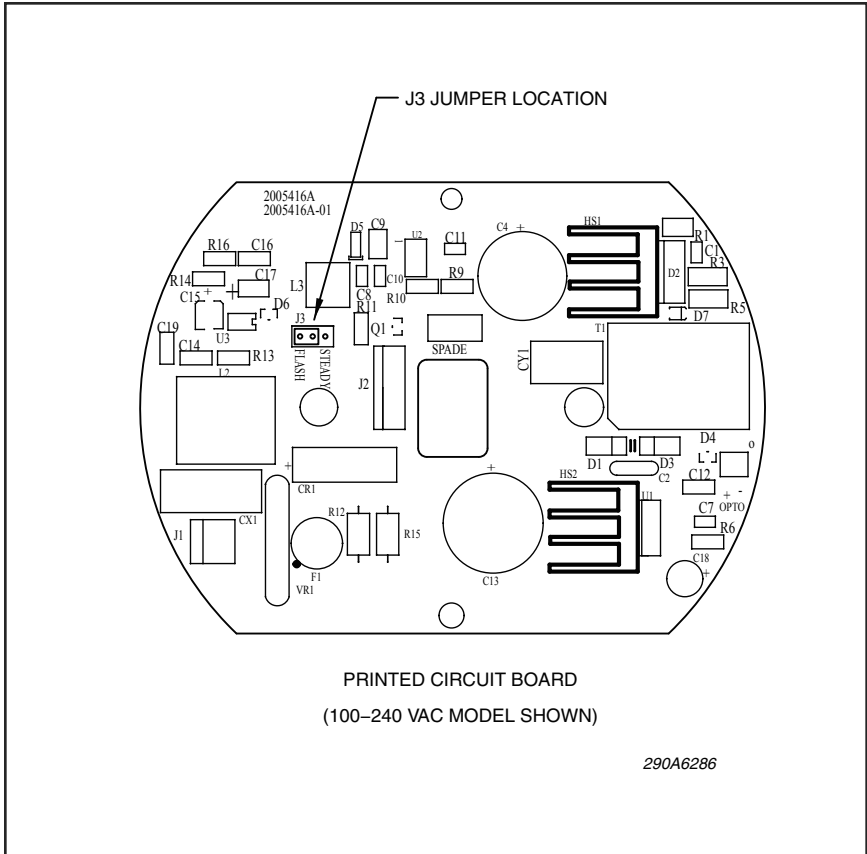

Figure 2
5. Locate jumper J3 and lift the jumper to remove it from "Flash" setting. Re-seat the jumper over the pins labeled "Steady." See Figure 2 on page 9.